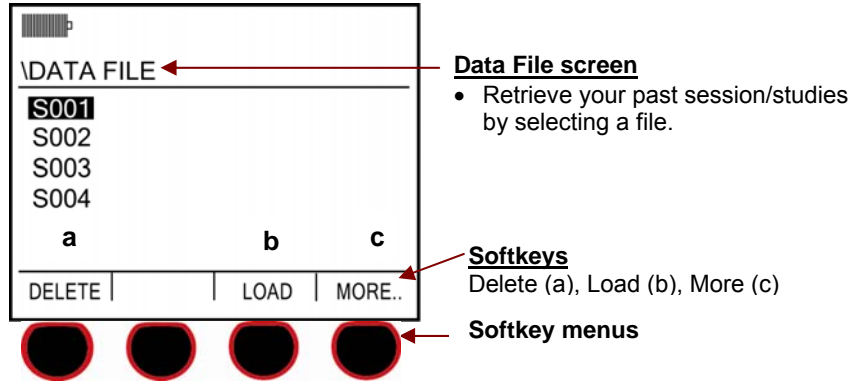

Figure 5-9: Loading and deleting files
4. Press . A naming screen appears for configuration files. The configuration file naming screen is identical to the screen shown in Figure 5-9 except the Path Line reads \Setup File and the selected file has a "cfg" extension.